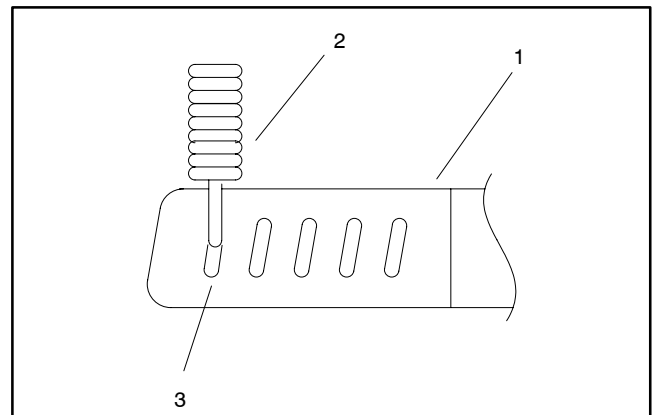

Figure 20
2. If removed, attach governor spring to bellcrank on throttle bracket and outer most slot in engine governor lever (Fig. 20).